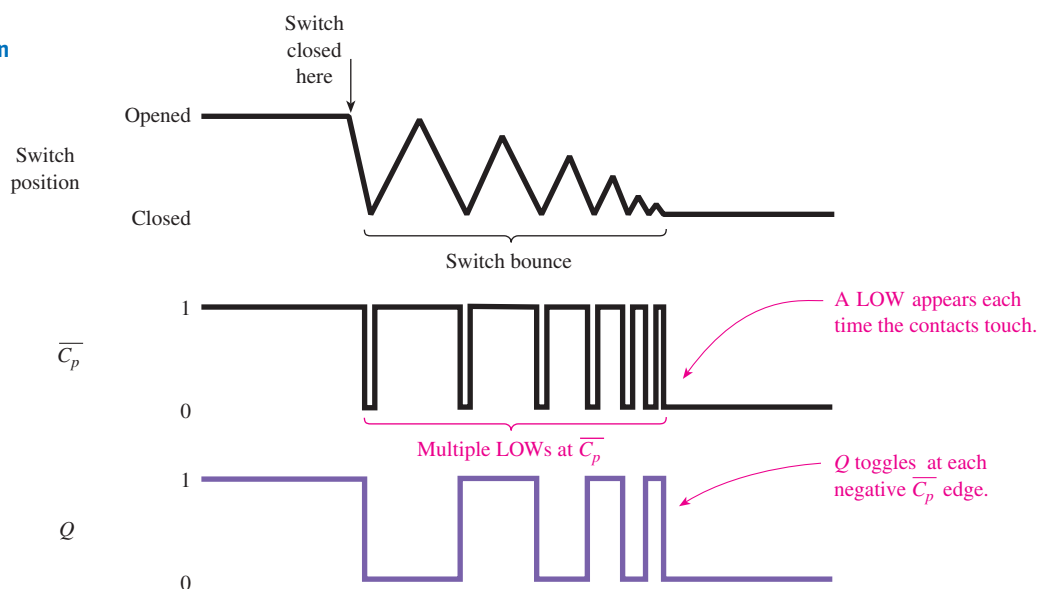

Figure 11–38 Waveform at point $\overline{C_p}$ for Figure 11–37 assuming Q starts HIGH.
There are several ways to eliminate the effects of switch bounce. If you need to debounce a single-pole, single-throw switch or push button, the Schmitt trigger scheme shown in Figure 11–39 can be used. With the switch open, the capacitor will be charged to +5 V (1), keeping $V_{out} = 0$. When the switch is closed, the capacitor will discharge rapidly to zero via the 100- Ω current-limiting resistor, making V_{out} equal to 1. Then, as the switch bounces, the capacitor will repeatedly try to charge slowly back up to a HIGH and then discharge rapidly to zero. The RC charging time constant ($10\text{ k}\Omega \times 0.47\text{ }\mu\text{F}$) is long enough that the capacitor will not get the chance to charge up high enough (above V_{T+}) before the switch bounces back to the closed position. This keeps V_{out} equal to 1.
When the switch is reopened, the capacitor is allowed to charge all the way up to +5 V. When it crosses V_{T+} , V_{out} will switch to 0, as shown in Figure 11–39. The result is that by closing the switch or push button once you will get only a single pulse at the output even though the switch is bouncing.